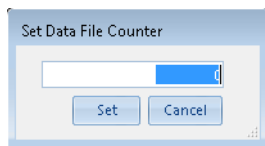

Figure 22 Set Data File Counter dialog box
- 6 Click **Set Counter**  in the *Date File Naming* group of the ribbon when you want to reset the counter used in data file naming. You can enter the reset counter value in the **Set Data File Counter** dialog box (see Figure 22).